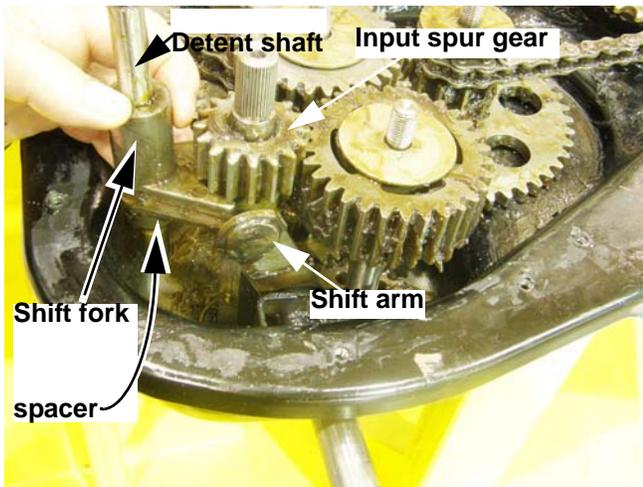

Figure 5.50
1. The detent shaft assembly can be lifted out of the chain case housing in tandem with the input pinion. See Figure 5.50.